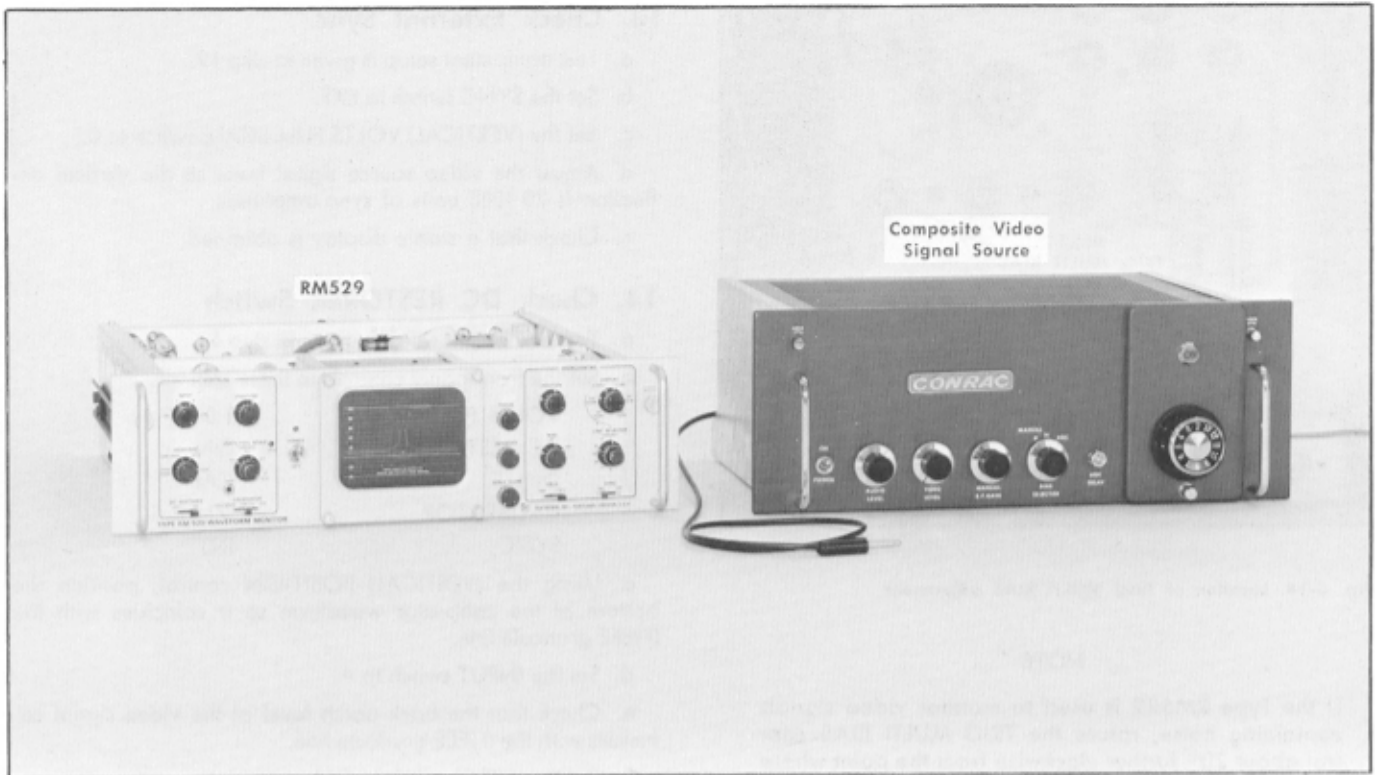

Fig. 6-13. Test equipment required for steps 12, 13 and 14.
**12. Adjust TRIG MULTI BIAS (R325) ❶**
- a. Test equipment setup is shown in Fig. 6-13.